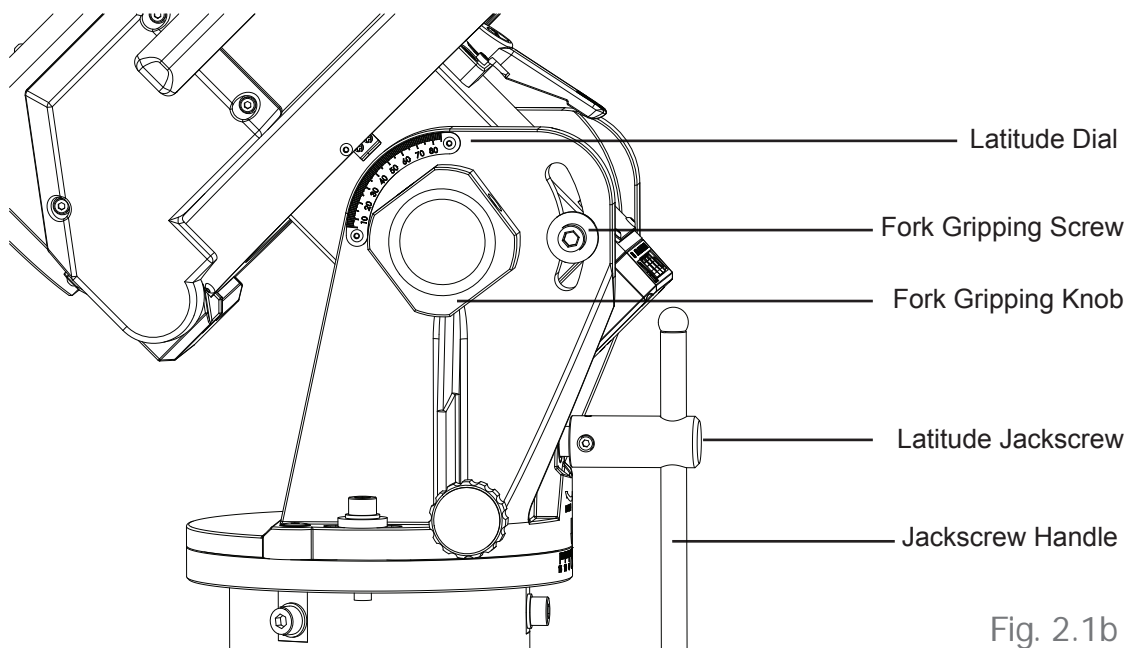

Fig. 2.1b
3. Loosen the fork gripping knobs and screws (Fig 2.1b) on both sides of the EQ8-R mount, and then tighten them slightly.
6. Install the handle on the latitude jackscrew and use it to set the latitude dial reading to local latitude (Fig 2.1b).